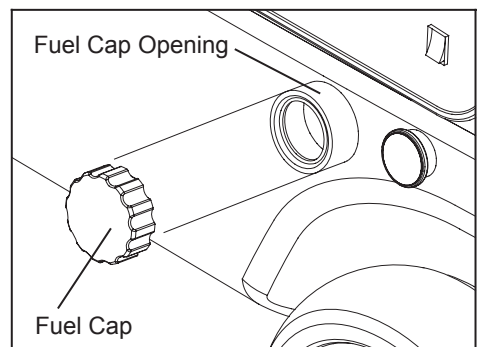

Figure 12. Reinstall Fuel Cap
4. Reinstall Fuel Cap (See Figure 12).